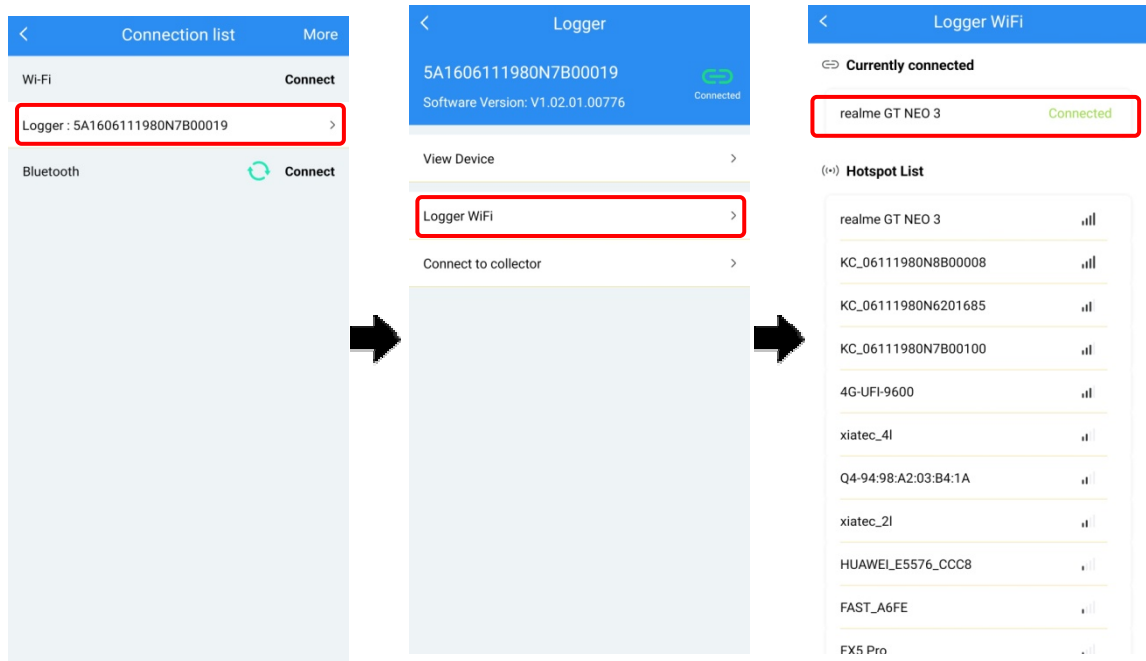

Figure3-36 Configure WiFi
Step 7 Click the device SN to enter the page as shown in Figure3-36. Click "**Logger WiFi**", select a available WiFi in "**Hotpot list**", when it prompts: **WiFi connecting successful**, click "**OK**". At this time, the currently connected WiFi should show "**Connected**".